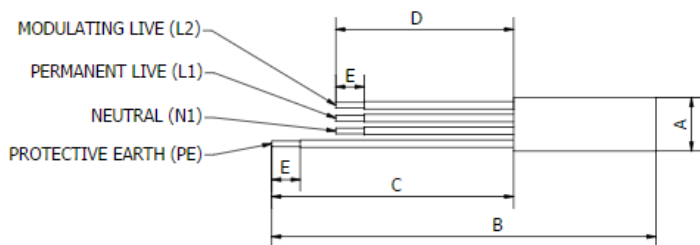

Figure 10: Wire length preparation diagram
- The mains power cable to the Sunamp Controller should be a minimum of 2.5mm2, 4 core H05 VV-F sheathed cable, to BS 6500. This cable must be prepared according to Figure 10 (below), where the Green/Yellow (Protective Earth) cable is 15 mm longer than the Brown (Permanent Live), Black (Modulating Live) and Blue/ Grey (Neutral). Please note that Figure 10, only relates for the Heat Battery terminal connections for information on the Solar Power Diverter connection, please refer to (Section 3.9).
- Prepare if necessary and wire the mains power cable in the following Heat Battery terminals (Figure 10 & 13.3):
- Prepare if necessary and wire the mains power cable in the following terminals (Figure 10 & 14.2):